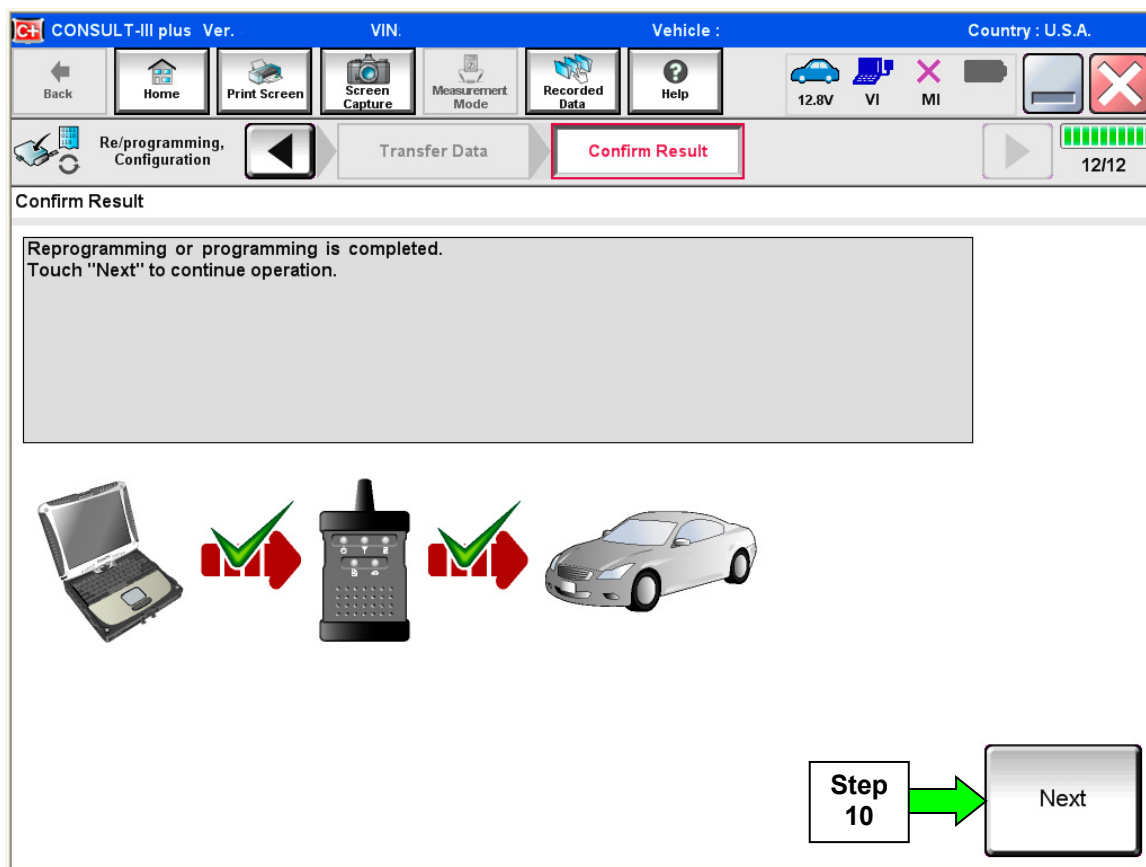

Figure 4
8. When the screen in Figure 4 displays, reprogramming is complete.
**NOTE:** If the screen in Figure 4 does not display (which indicates that reprogramming did not complete), refer to the information on the next page 8.